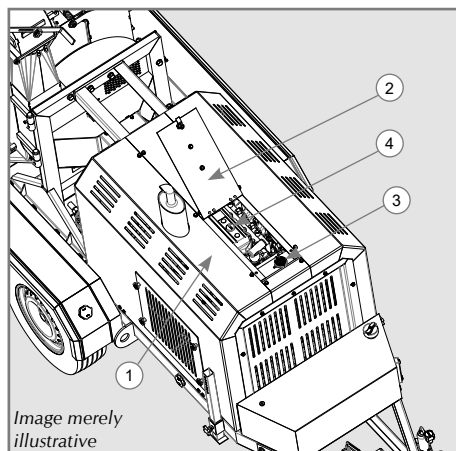
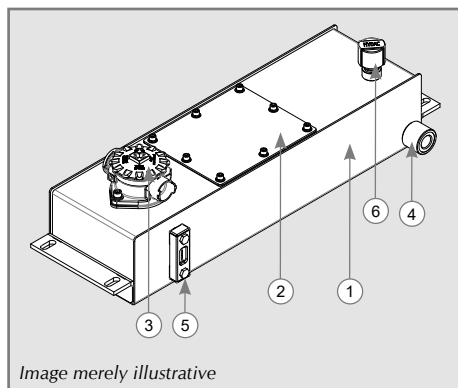

Figure 5
Figure 6
- ✓ For the instructions for filling the diesel engine fluids, open the upper protection (1) of the cowl (2) that gives access to the radiator lid (3) and the crankcase oil lid (4); add water to the radiator, if necessary, and oil to the crankcase, following the recommendations in the engine manual; then, close the upper protection again and certify that you have closed the radiator and oil input lids, see Figure 5.
- ✓ To insert oil in the hydraulic tank (1) in TR 2000 and TR 1500, proceed as follows:
- Remove the oil input lid (6) and, with the aid of a funnel, supply 18 liters of VG68 oil. Check the oil level through the viewfinder (5) and, after filling up, check if there are leaks at the hose outlet (4). If you need to clean, open the lid (2) by loosening the screws, noting that, after opening the lid, it must be glued with gasket glue to avoid leakages. On the return filter (3), there is a saturation indicator that turns red when it must be changed, as per figure 6; for changing, consult a TRAPP assistant.